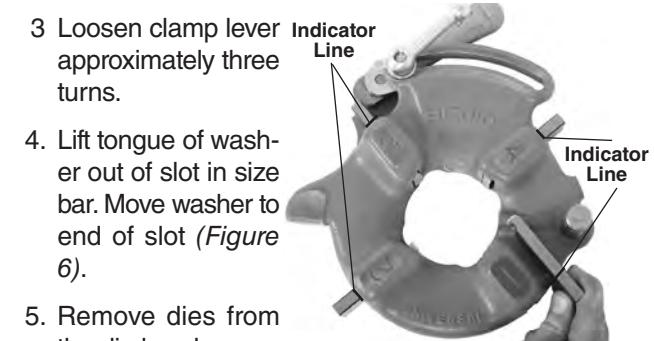

Figure 6 – Inserting Dies
- Lift tongue of washer out of slot in size bar. Move washer to end of slot (Figure 6).
- Insert appropriate dies into the die head, numbered edge up until the indicator line is flush with the edge of the die head (see Figure 6). Numbers on the dies must correspond with those on the die head slots. Always change dies as sets – do not mix dies from different sets.